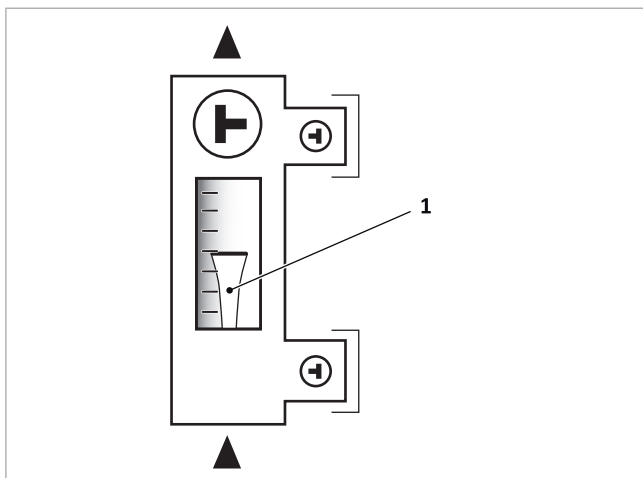

Fig. 109: Read the volume flow at the upper edge of the float (1)
2. Connect the pressure hose for the flushing and filling station (FFS) to the BFD valve (6) of the flow meter and open the BFD valve.
3. Switching on and flushing the flushing pump: FFS → BFD valve (6) → primary pump → collector field → solar heat transfer station to BFD valve (5) → FFS
5. Bleed the solar circuit again by building up and releasing pressure. To do so, close and open the BFD valve (5) two to three times.
6. If Tyfocor exits without any bubbles, close the BFD valve (5) and increase the system pressure to 4 bar.
7. Close the BFD valve (6) and switch off the FFS pump. Check the system to ensure that there are no leaks.
8. Bleed the deaerator (7).
9. Fully open the cap valve (3).
10. Set the system pressure to the calculated operating pressure by slowly opening the BFD valve (5). Rule of thumb: MEV admission pressure + 0.3 bar.
11. Set the flow meter to the flow position (see → fig. 109, page 58), close the BFD valves (5) and (6), remove the SBS and screw on the caps.